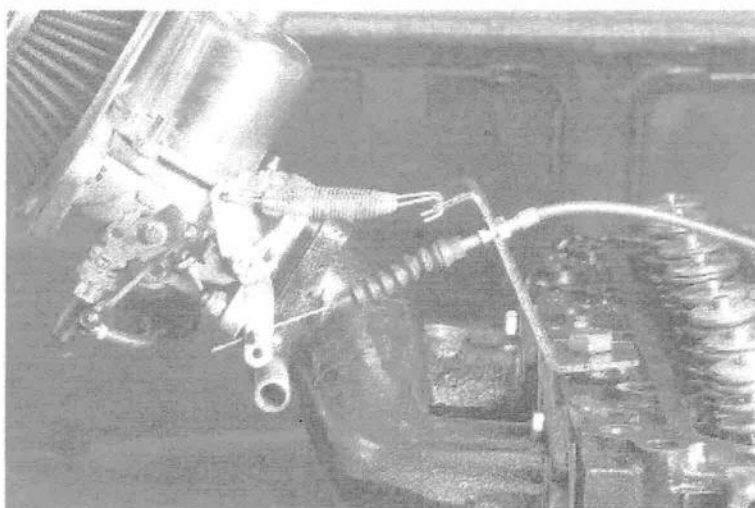

FIG. 5
4. Fit return springs and ensure that cable has minimum slack and that throttle is closed fully when pedal is released. (See Fig 5).